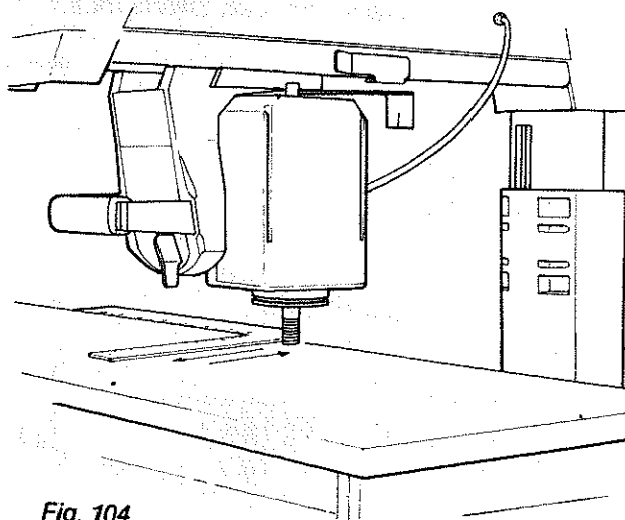

Fig. 104
7. Lay a framing square on the *front table* with the long edge along the back of the *table* and the short edge alongside the *motor arbor*. (Figure 104)
8. Move the framing square toward the *motor arbor* until the arbor and square touch each other. (Figure 104)
If the *motor arbor* moves away from the square or tries to "walk" on top of it, go to step 11. (Figure 104)